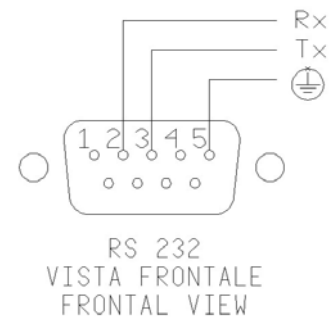

Fig.7
- Connect the terminals of the thermostat to the socket (4).
For PC control use the serial communication RS 232 (5) (references fig.7)